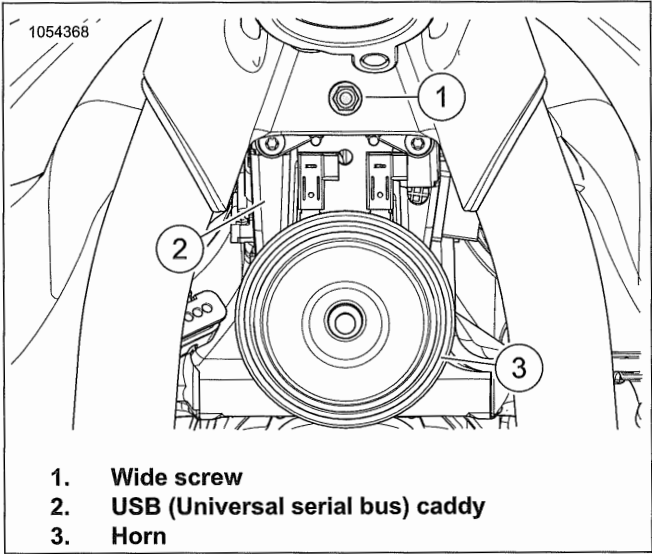
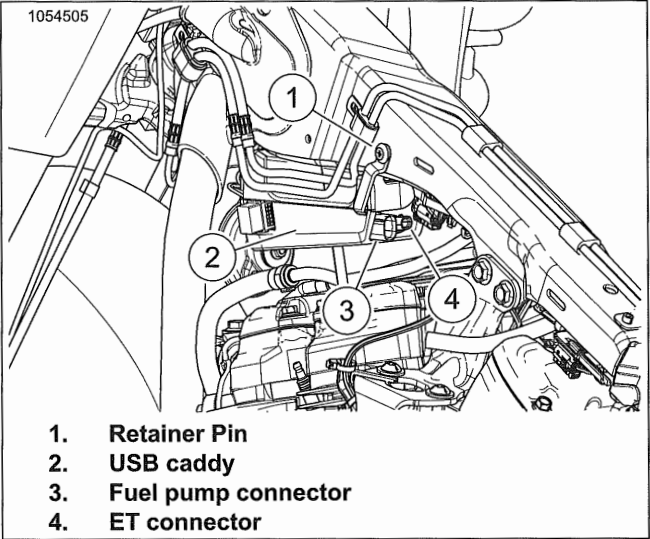

Figure 7-145. USB Caddy Front Screw (Typical)
Figure 7-146. USB Caddy Retainer Pin
- 1. See Figure 7-145. Remove wide screw (1).
- 2. See Figure 7-146. Disconnect ET connector (4).
- 3. Remove retainer pin (1).
- 2. See Figure 7-146. Install retainer pin (1).
- 3. Connect ET connector (4).
- 4. See Figure 7-145. Install wide screw (1). Tighten.